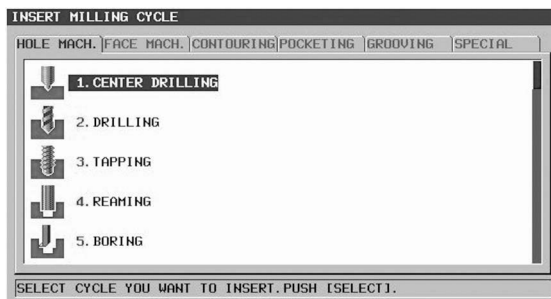

Figure 7-63 HOLE MACHINING,
- Select the FIXFRM soft key and select item 1. POSITION MOVE. Then press the INSERT soft key.
- Under the HOLE MACH. tab make sure that item 1. CENTER DRILLING (Figure 7-63) is highlighted and press the SELECT soft key.